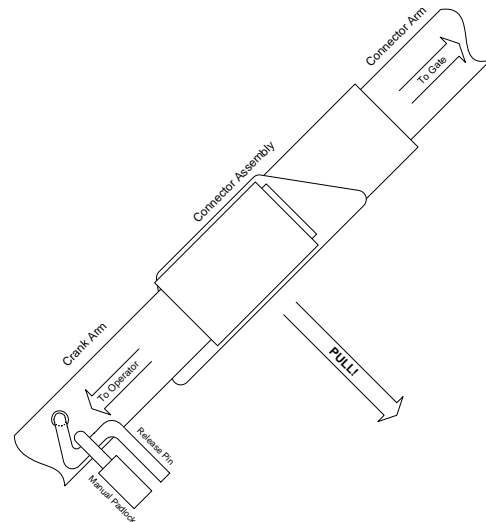
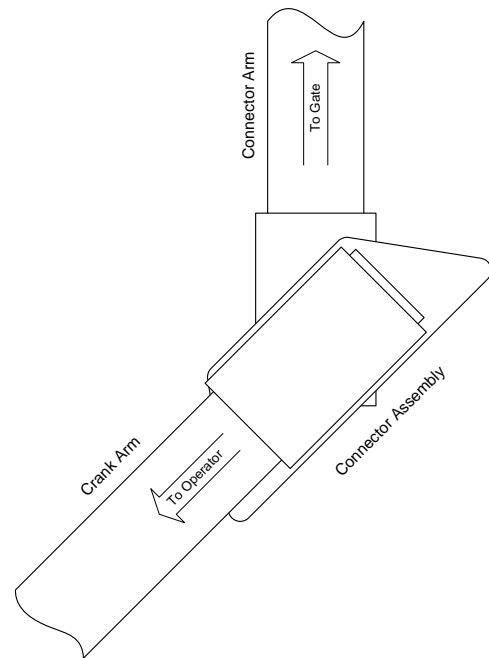

Figure 39
Figure 40
1. Pull the gate arm (figure 39) that is attached to the operator shaft away from the gate so that the knuckle joint is slightly "broken" (figure 40).
- Be sure that primary (AC) and backup (DC) power is removed or shut-off prior to placing the gate operator in manual operation.
- Unlock and remove the padlock on the operator crank arm (figure 39) and then pull the release pin.